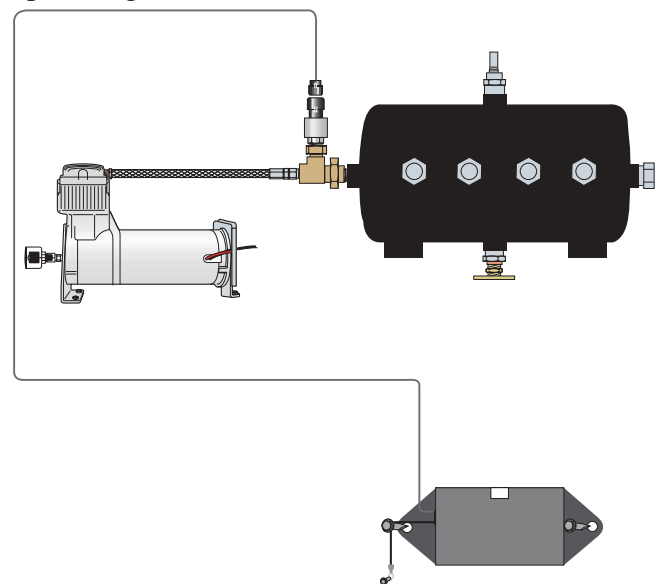

Figure 4
5. Attach the transducer wire from the ECU to the transducer previously connected to the air tank (Figure 4).